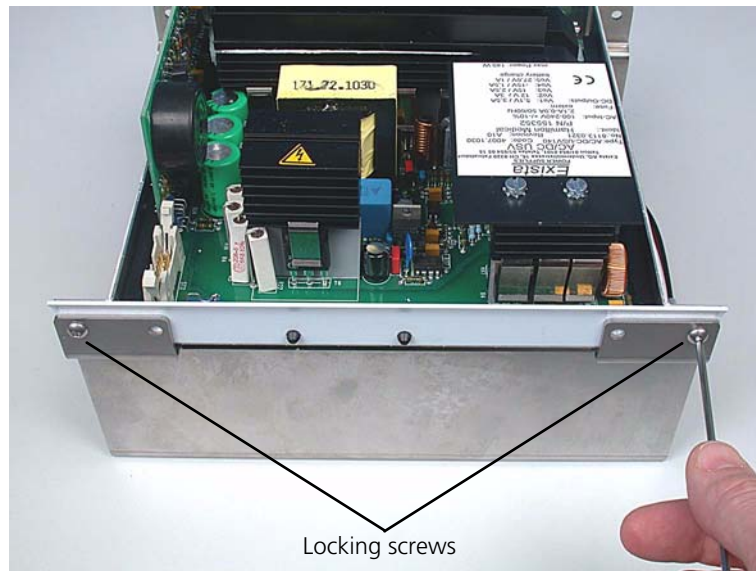

Figure 11-19. Removing the screws securing the locking bar
6. Turn the power supply around, and remove the two hexagonal-drive (Allen) screws securing the power supply board locking bar. (Figure 11-19.)